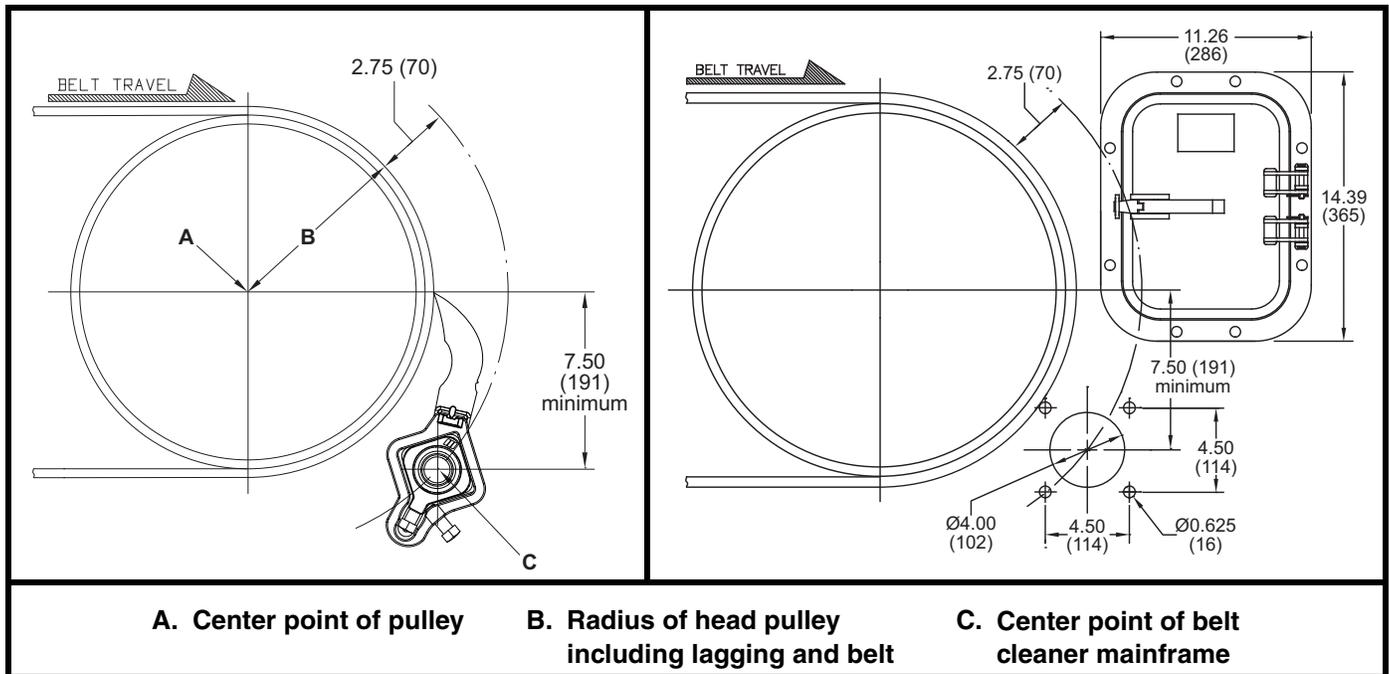

Figure 3. Belt Cleaner Mainframe Location & Chute Wall Cutouts for Martin® QB1™ Cleaner PV with Martin® Twist Tensioner
1. On operator side of chute, find pulley center point (A).
2. Measure radius of head pulley including lagging and belt thickness (B). To this dimension, add 2.75 in. (70 mm).
3. Starting from center point (A), measure the total distance calculated in step 2 (B + 2.75) and draw an arc on chute wall.
4. Measure down from pulley's horizontal centerline the distance shown in Figure 3 and draw a horizontal line parallel to it. Locate center point of belt cleaner mainframe (C) where this line intersects the arc on the chute wall.